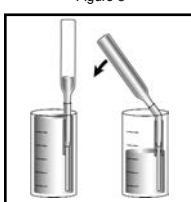

Figure 4
7. Place the VACUette between the vertical tip guides on the inside of the dilutor snapper cup and snap the ampoule tip. Fig. 4